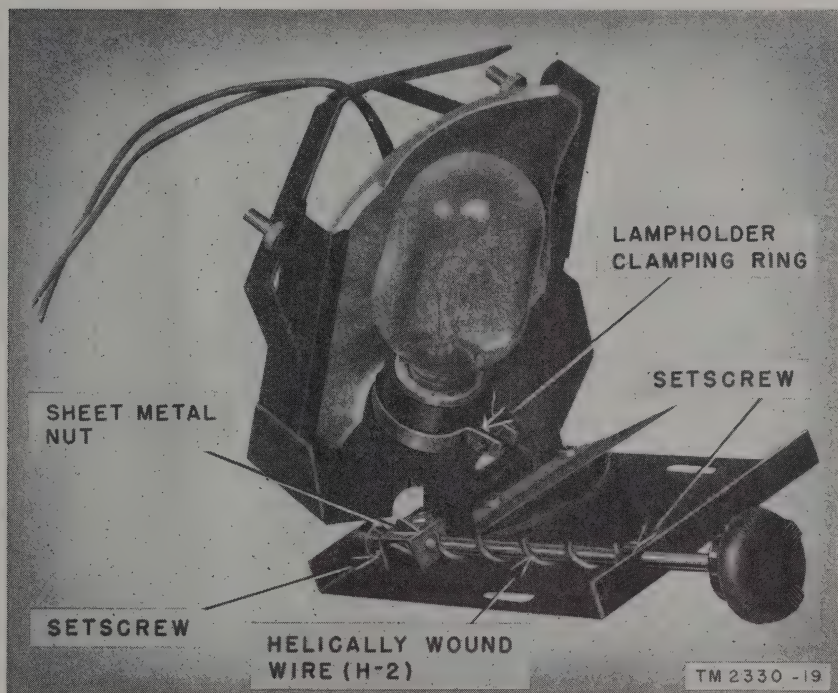

Figure 19. Lampholder and swivel actuating shaft assembly.
Open the large door of the projector. Loosen the screw on the lampholder clamping ring (fig. 19). Pull the lampholder up and out of the clamping ring. Remove the insulating plate from the bottom of the lampholder. Disconnect the leads by loosening the contact screws. Replace the lampholder, following the reverse procedure.
63. Replacing Swivel Actuating Shaft Assembly (fig. 19)